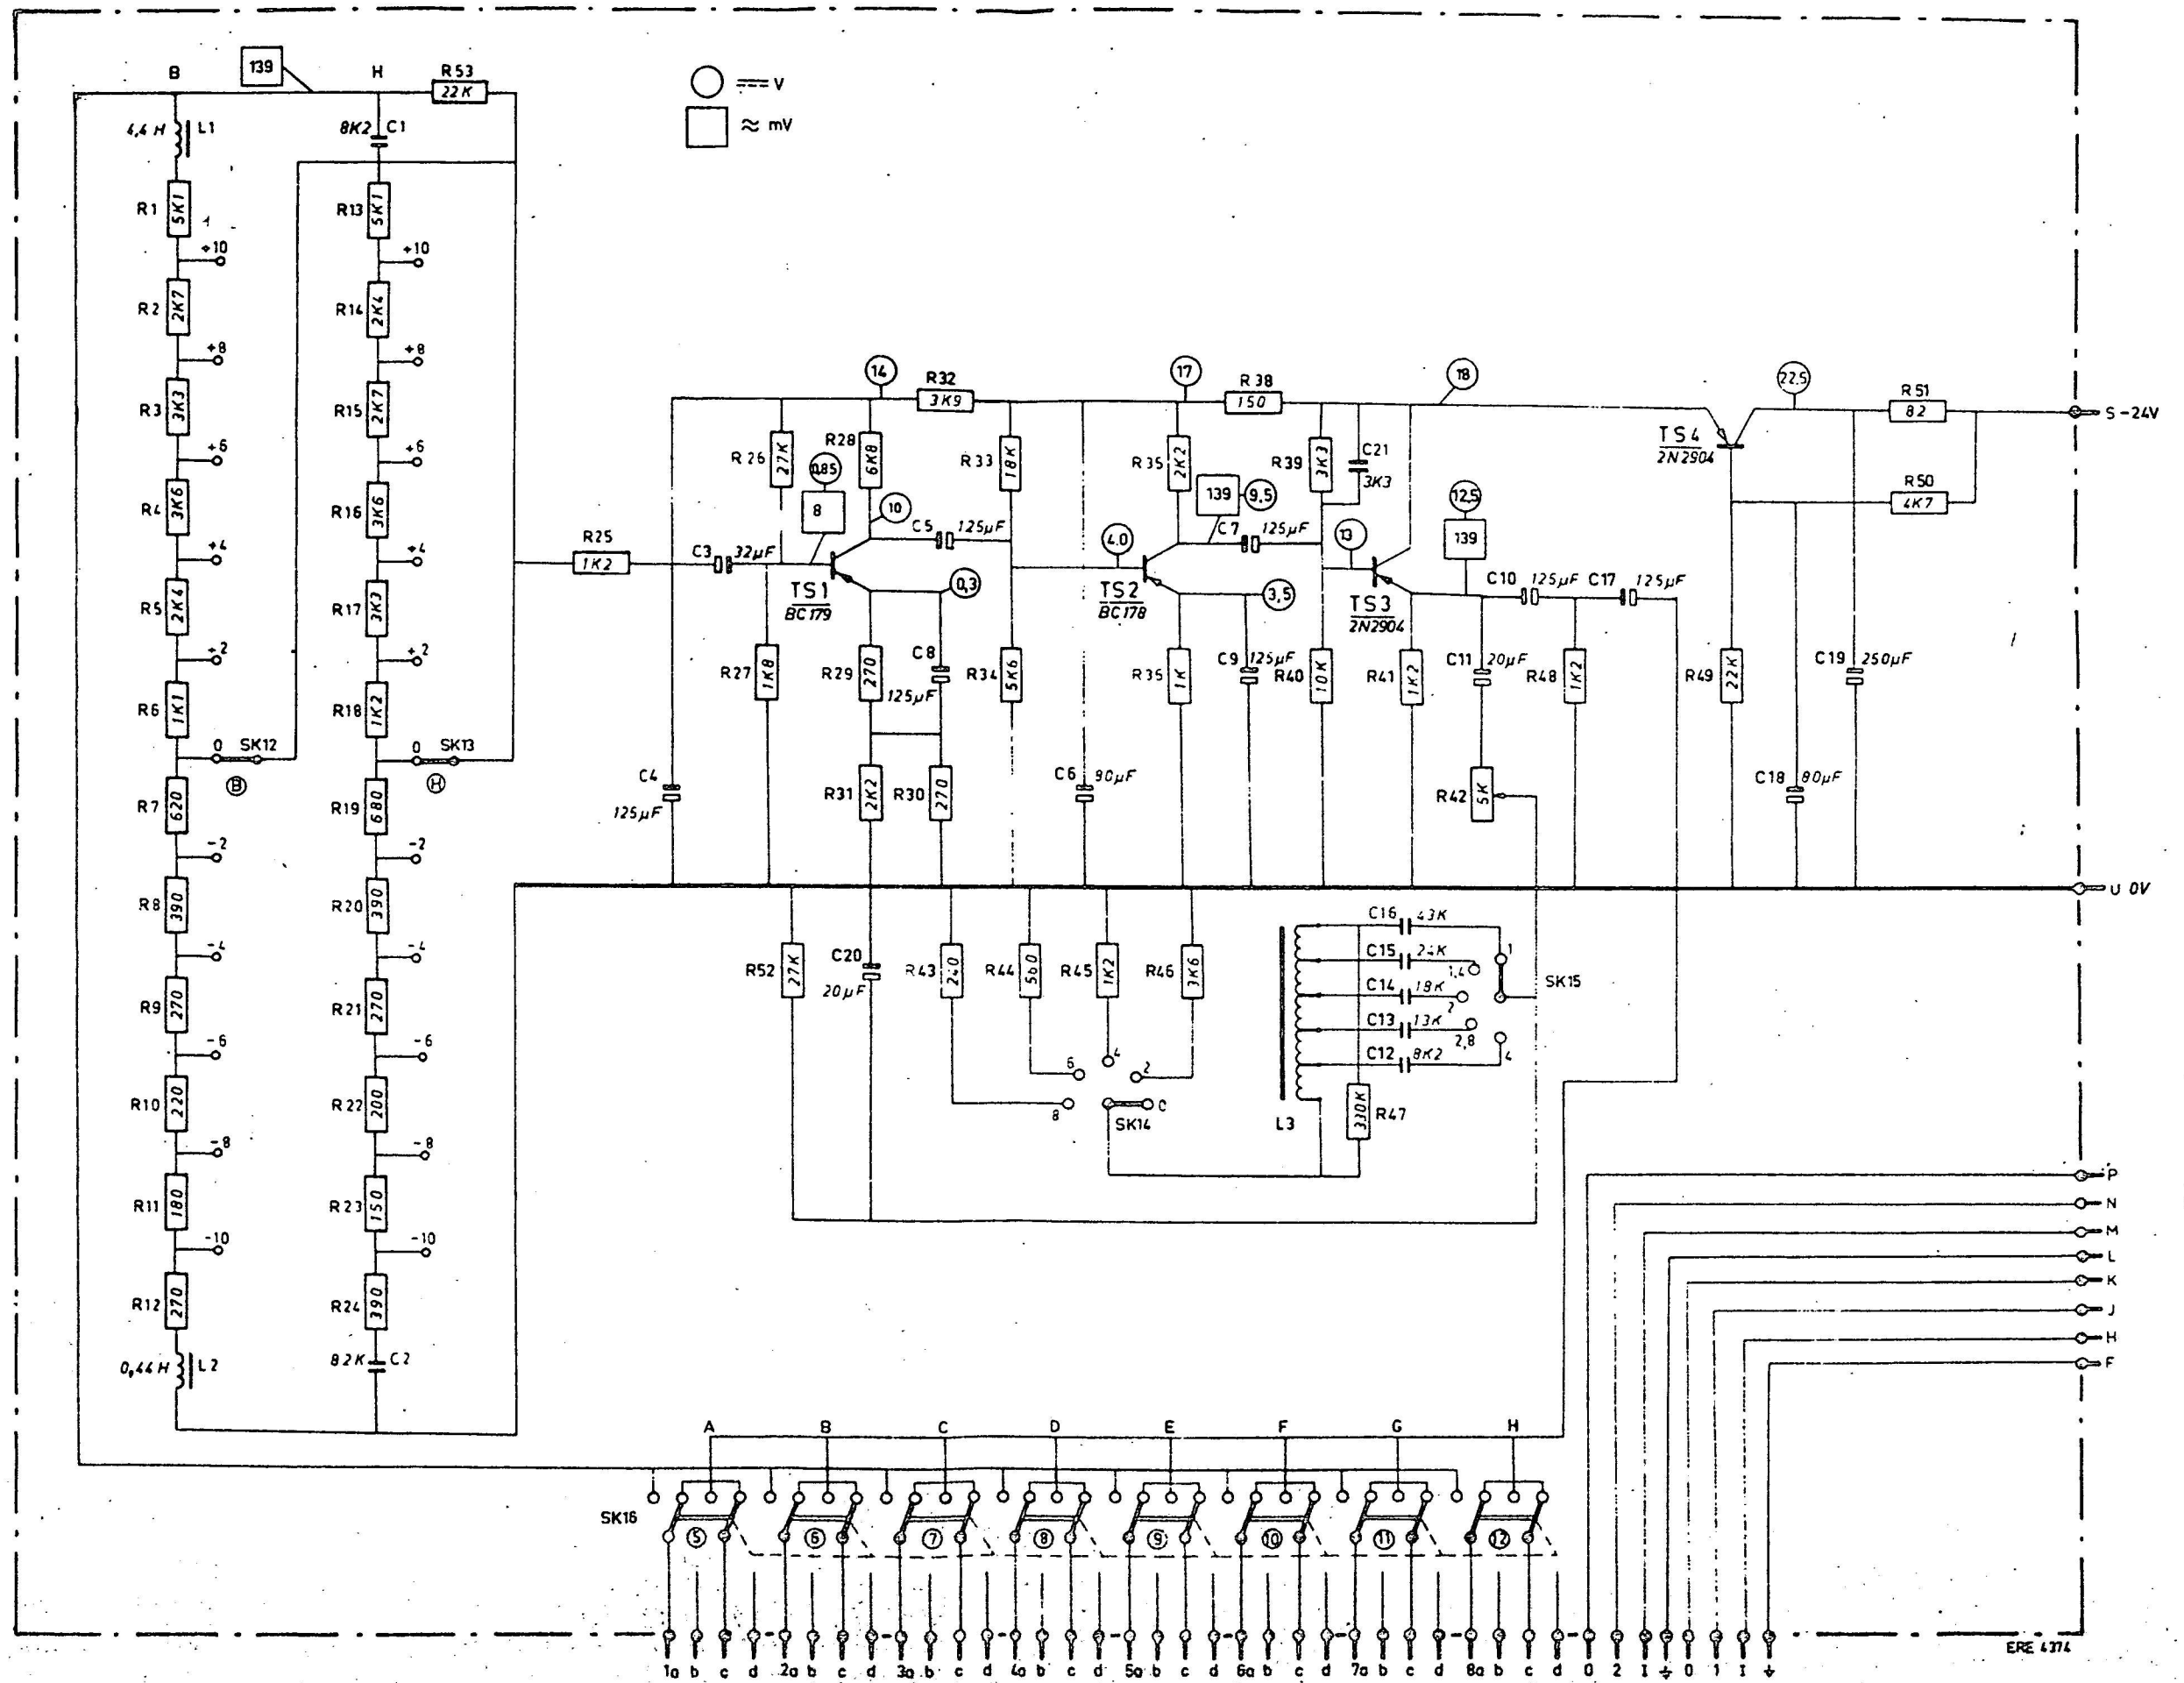

Fig. 55
- . The transistor settings and the AC voltage should be measured as shown in Fig.55.